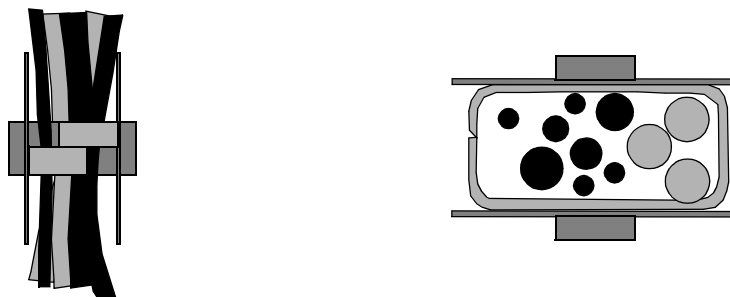

Figure 16 Cable harness guide, axes 2, 3.
- 6 Remove the cable guide <2:5/42> located between the lower and parallel arms by pressing the split part so it overlaps. Open it up and take out the cables (see Figure 16).